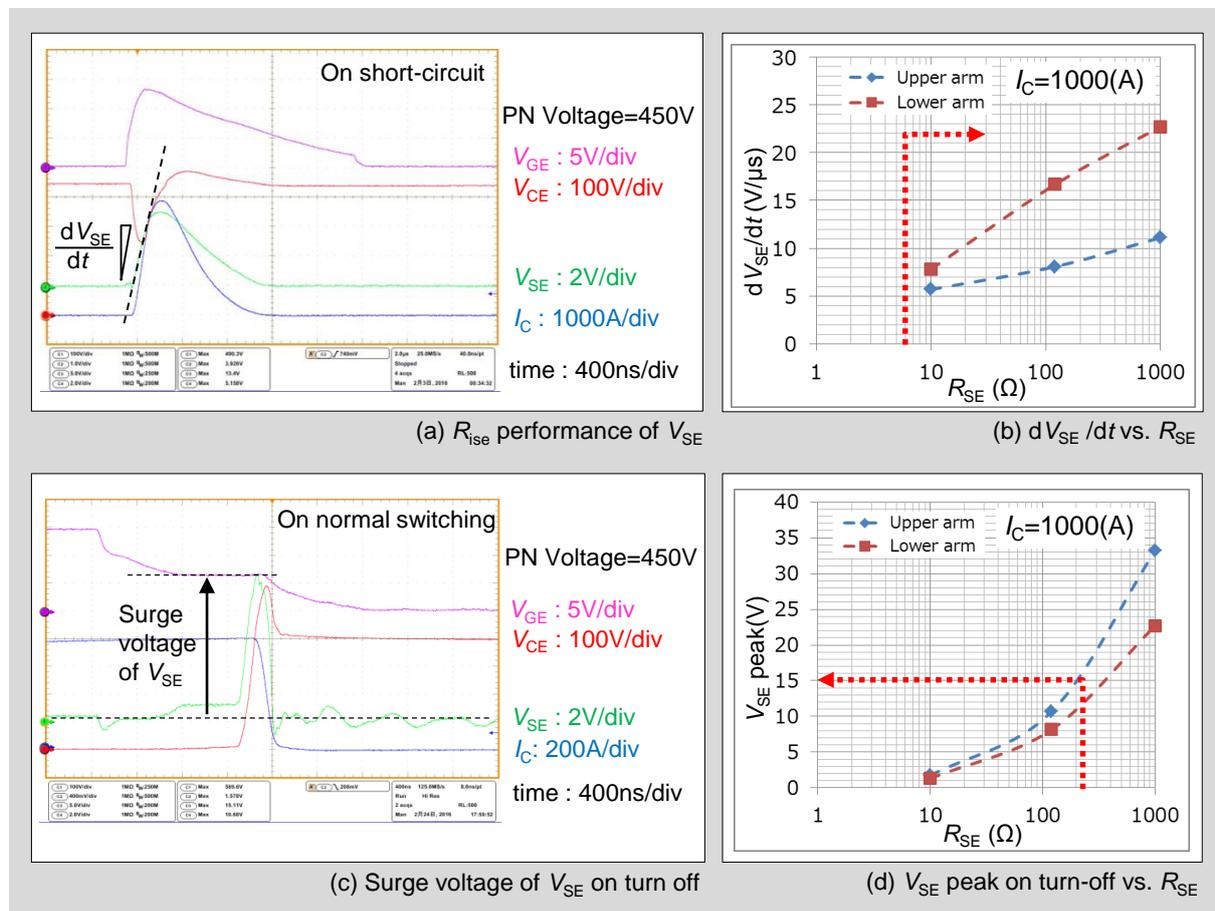

Fig. 8-3  $V_{SE}$  performance
As shown in Fig. 8-3(a), steeper  $dV_{SE}/dt$  is needed for high speed SC protection, and  $dV_{SE}/dt$  tends to increase as  $R_{SE}$  value increasing shown in Fig. 8-3(b).
- 2) On the other hand, when  $R_{SE}$  is much higher value, the SC protection circuit and/or IC might be broken down due to turn-off surge voltage of  $V_{SE}$ , Fig. 8-3(c).
The  $V_{SE}$  on turn-off depends on  $R_{SE}$ , Fig. 8-3(d)